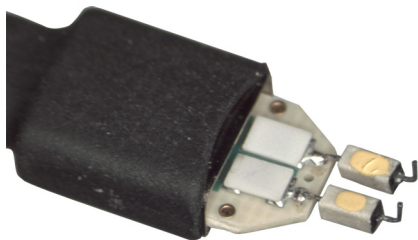

Figure 93 N2836A ZIF Probe Head
- 2 Prepare the N2836A / MX0109A solder-in probe head for connection to the PV fixture as shown in Figure 93. Shape the leads as shown.